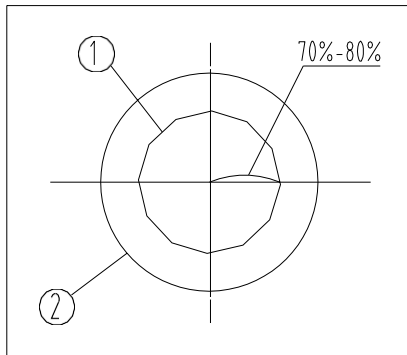

Fig.14
2. Adjust condenser adjustment knob (3) in clockwise direction, raise the condenser to the top, let the illumination light fill the field of view. As the specimen contrast is usually low, it is advised to adjust the condenser aperture diaphragm to be 70%-80% of the N.A. of objective. Rotate the aperture diaphragm adjusting ring (4), align the arrow with the magnification position at the diaphragm seat (5). The eyepiece can be taken off when it is necessary to observe from the tube. Adjust the aperture diaphragm adjusting ring (4) until you see the figure as shown in Fig.14, to adjust the proportion (see Fig. 14&15, ① so the image of aperture diaphragm, ② is at the edge of objective).